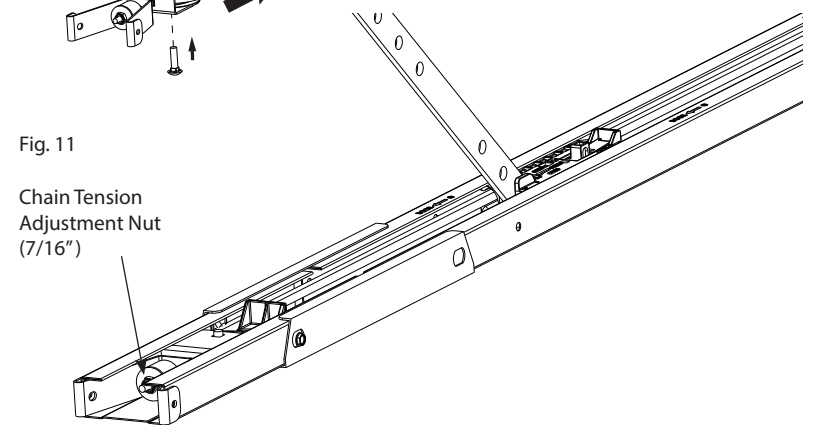

Fig. 11
16. On the door end (pulley), tension the chain by tightening the adjustment nut on the pulley assembly until the chain does not ride on the rail (approximately 1/8" off the rail). Fig. 11